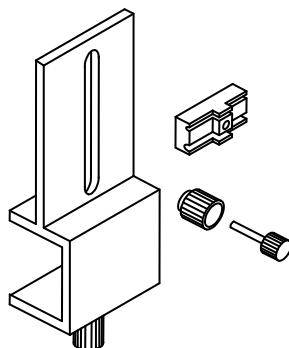

Fig.21 Disassembly of EZU-PA3U
- 3) Disassemble the EZU-PA3U (Fig.21) and immerse all parts in sufficient amount of high quality tap water. Scrub them using soft cloth to remove all visible soil and dried protein from their surface.